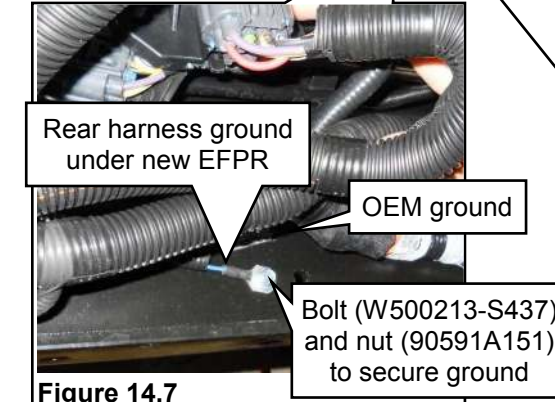

Figure 14.7
9. Connect the rear harness ground lead to the frame at OEM ground location near the front of the harness. Use M6 x 1.0 x 16 bolt and nut. Connect the tank harness jumper ground to the frame crossmember just above the rear axle. M6 x 1.0 x 16 bolt and nut. Tighten the two grounds to 8–12 Nm. **Note:** To make sure a good connection to ground is made, remove the OEM paint under the ground location. Ground bolts and nuts are supplied with the kit. **Figures 14.7 and 14.10.**